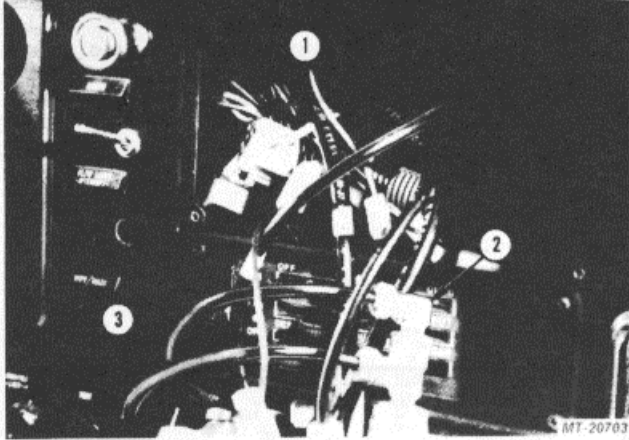

Fig. 7. Removing Wiper Switch
3. Remove mounting nut from switch shaft and demount switch assembly from instrument panel (Fig. 7).